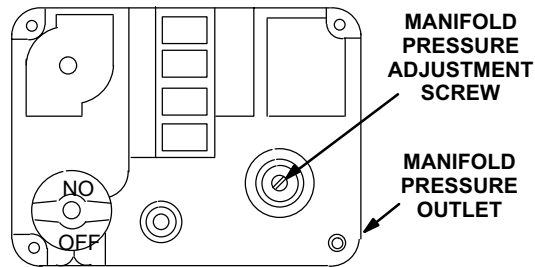

FIGURE 2
- Gas Valve Operation (Figure 2)**